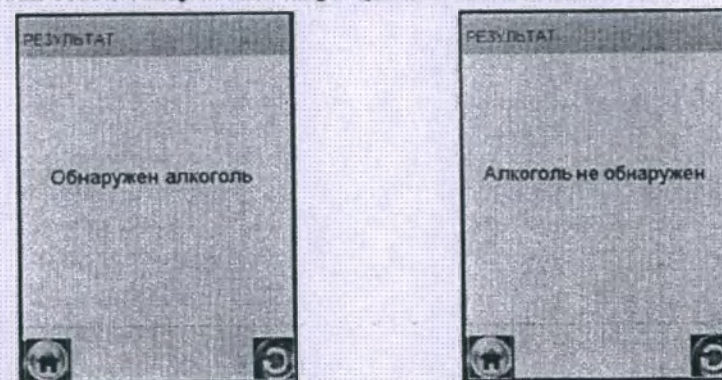

Figure 26 – Test results in screening mode
2.12.8 Depending on the test result, one of two messages appears on the analyzer screen (Figure 26).